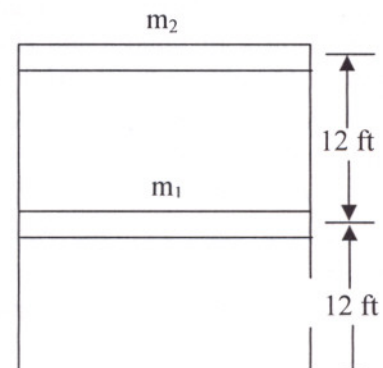

Fig. Q-3
b) Two-storied building frames, as shown in Fig. Q-3, are spaced 16 ft apart. Find the mode shapes and modal frequencies and time periods.